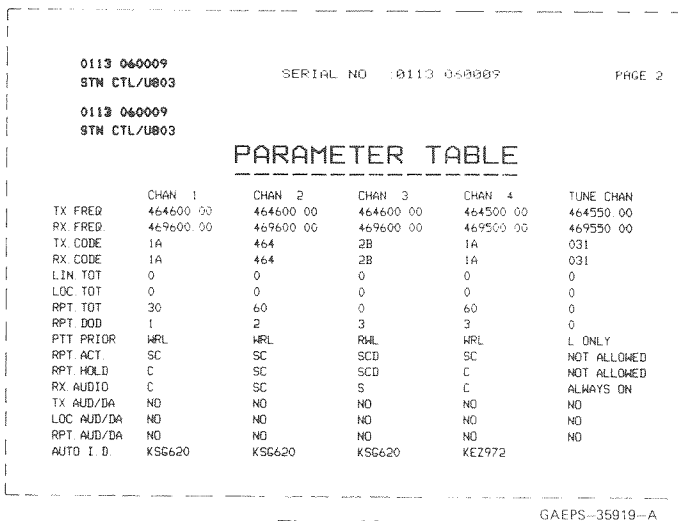

Figure 10.
4.5.3 Figure 10 illustrates a typical page 2 of the *MSF 5000* System Parameter Booklet. The information presented on this page includes: